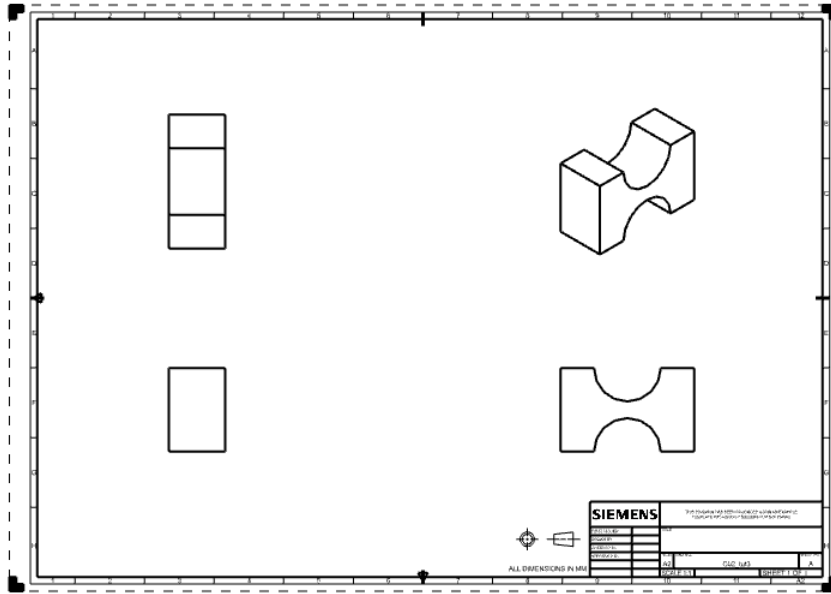

Figure 2-82 The drawing sheet after creating the drawing views
5. Choose the **Base View** tool from the **View** panel of the **Home** tab; the **Base View** dialog box is displayed. Next choose the **Isometric** option from the **Model View to Use** drop-down list of the **Model View** rollout; the floating trimetric view gets attached to the cursor. Click to place this view on right of top view placed earlier. The resulting drawing sheet after generating the drawing views is shown in Figure 2-82.